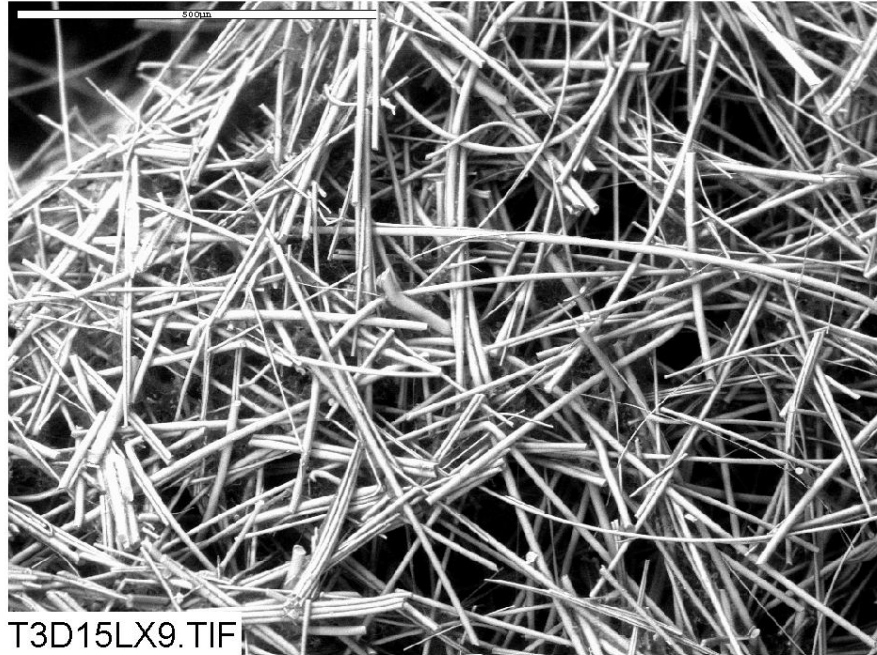

Figure B2-5. Environmental SEM image magnified 110 times for a Test #3, Day-15 low-flow exterior fiberglass sample. (T3D15LX9)
- Figure B2-5. Environmental SEM image magnified 110 times for a Test #3, Day-15 low-flow exterior fiberglass sample. (T3D15LX9) B2-7